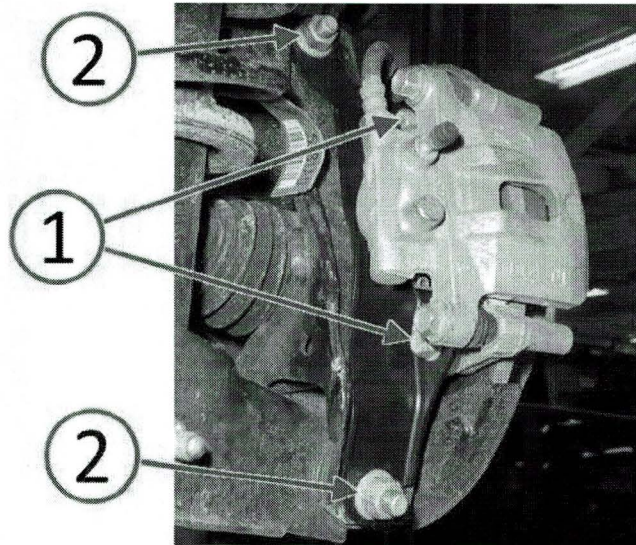

Fig. 4 Brake And Control Arm Fasteners
12. Thread the upper and lower control arm nuts (2) fully onto the bolts until no clearance remains between the nuts, anti-vibration bracket, and trailing arm. **Do not tighten the nuts at this time** (Fig. 4).
13. Tighten the caliper anchor mounting bolts (1) to 68 N•m (50 ft. lbs.) (Fig. 4).
18. With the vehicle resting at curb height, tighten the bolts and nuts (2) securing the upper and lower control arms to the trailing link to 105 N•m (77 ft. lbs.) (Fig. 4).